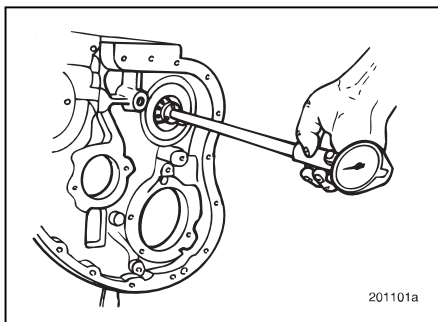

Figure 6-10 — Auxiliary Driveshaft Bushing ID Check
1. Using a telescope gauge or inside micrometer, measure the auxiliary bushing bores. Take two readings, perpendicular to each other, in each bore. Record the readings. Refer to Figure 6-10.